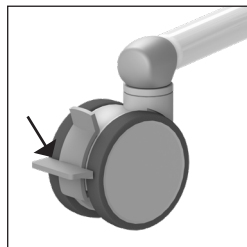

Figure 1. Swivel wheel.
- The brake can be applied on the Tango XXL by pushing the gray lip on the wheel downwards (See figure 1).